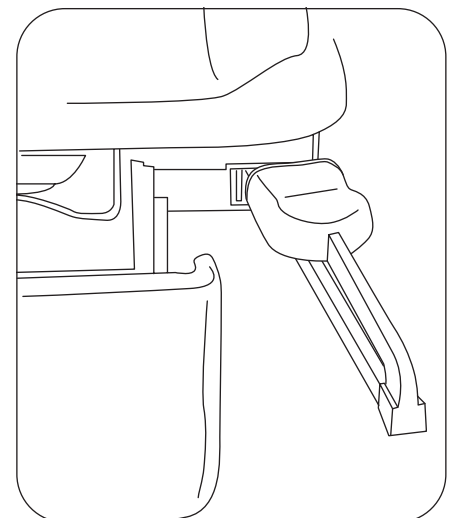

Figure 15. Storing the Stirrups
1. To store the stirrups in the table, grasp end of stirrup and pull straight out to its full extension (Figure 15).